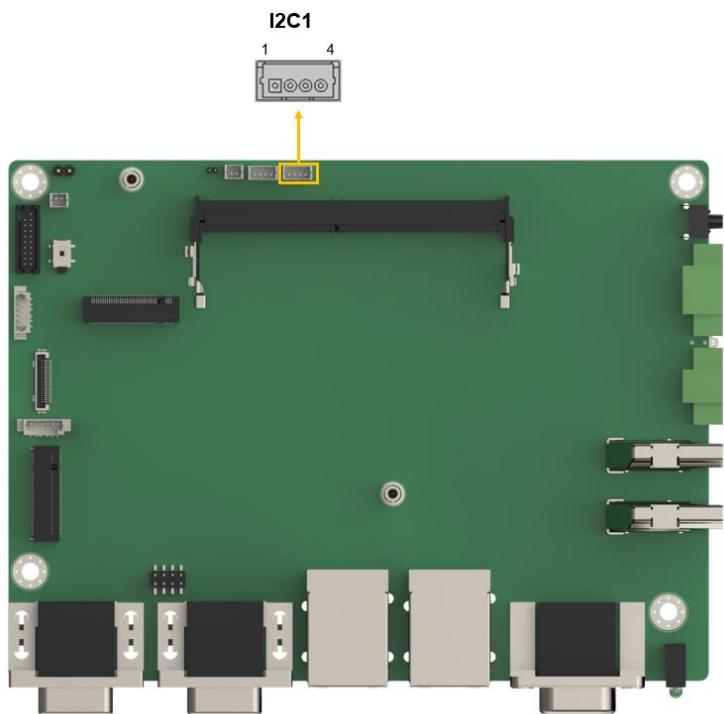

Figure 4-13: I²C Connector Location
- CN Location: See Figure 4-13